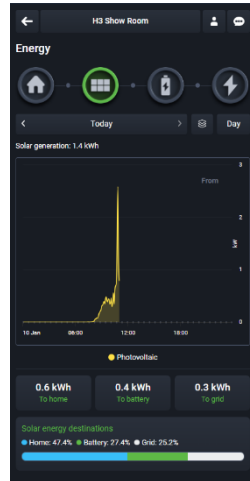

Figure 4: Produced energy
- Graph two, shows the energy production of the photovoltaic system (see Figure 4).